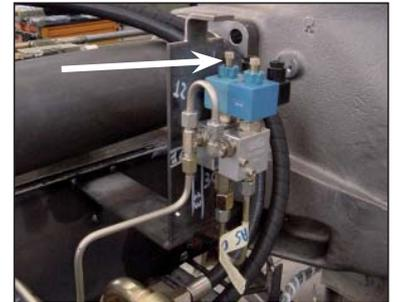
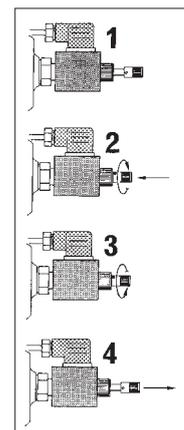

fig. 19
fig. 18
Under the protection guard of the two distributors it has been installed an electro-valve with a manual locking function (fig. 19) which allows to reactivate all the crane functions in case of absence of the electric power. Only in these conditions it is permitted to remove the lead seal which protects the device. Push the button and turn it into the clockwise sense (fig. 18 pos. 1-2); the button stays in stable and closed position.
- (!) **When the electric power is reestablished, remember to put the button in its original position, turning it into the anti-clockwise sense. (fig. 18 pos. 3-4)**